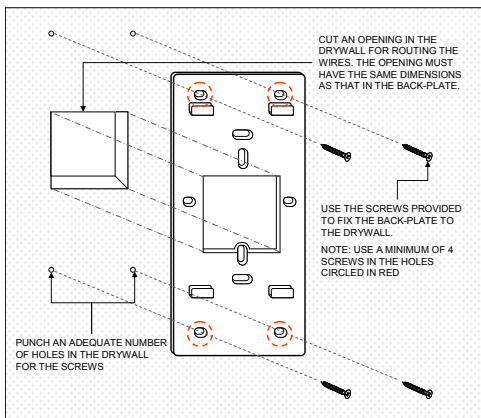

Fig.3. Fixing reader back-plate to drywall
2. Cut the cable opening on the drywall using suitable tools and punch an adequate number of holes for the mounting screws. It is advisable to use at least four screws for fixing the reader. Use the wall anchors for additional holding strength. See **Fig.3**.
3. Hold the back-plate in position on the drywall. Align the mounting screws with their holes and fasten the back-plate securely on the drywall using the screws. See **Fig.3**.